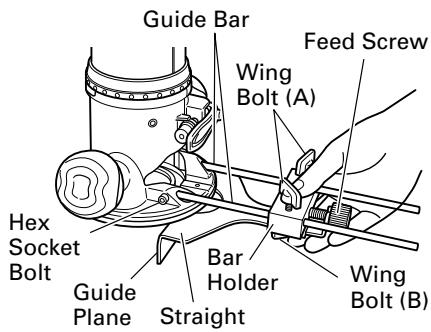

Fig. 13
- ① Insert the guide bar into the hole in the bar holder, then lightly tighten the 2 wing bolts (A) on top of the bar holder.
- ② Insert the guide bar into the hole in the base, then firmly tighten the 2 hex socket bolts (standard accessories).
- ③ Make minute adjustments of the dimensions between the bit and the guide surface with the feed screw, then firmly tighten the 2 wing bolts (A) on top of the bar holder and the wing bolt (B) that secures the straight guide. (Fig. 13)